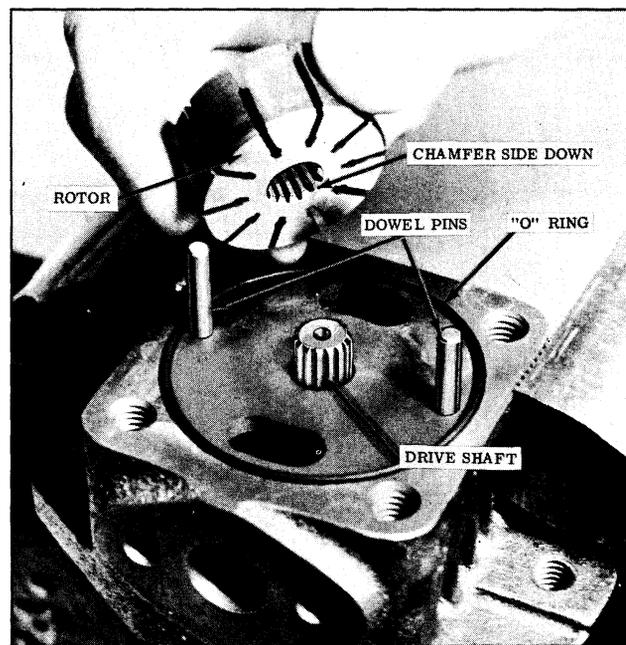

Fig. 5-81 Rotor Installation
8. Install a new "O" ring, dowel pins (if removed), and rotor with chamfer end of spline facing the pump body. (See Fig. 5-81)